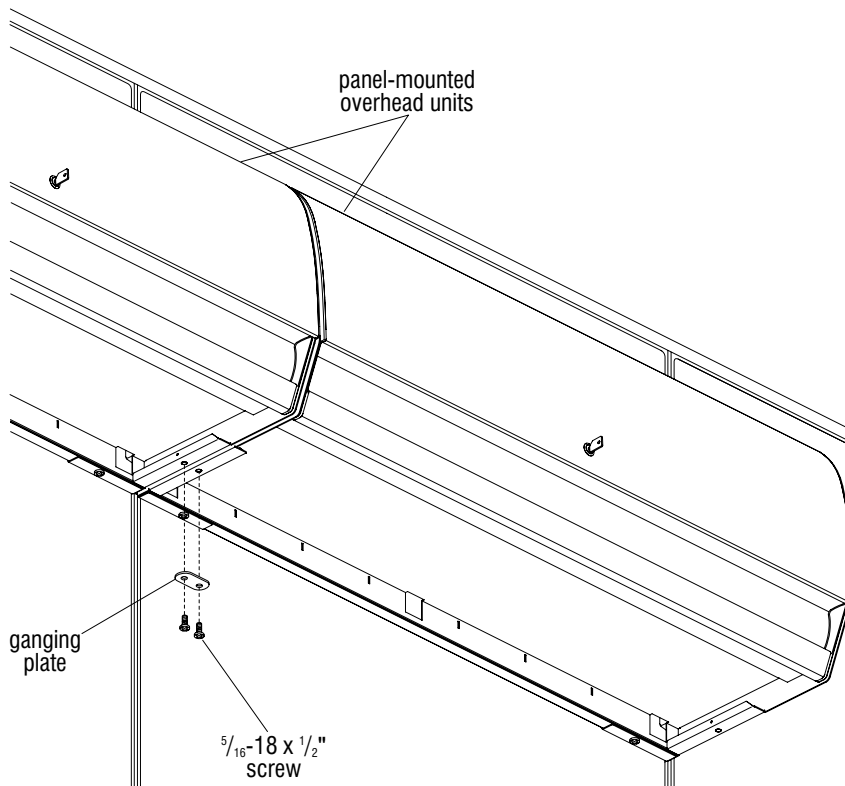

Figure 13
1. Orient ganging plate as illustrated under pair of overhead units and use two  $\frac{5}{16}$ -18 x  $\frac{1}{2}$ " screws to secure plate to underside of overhead units (Figure 13).